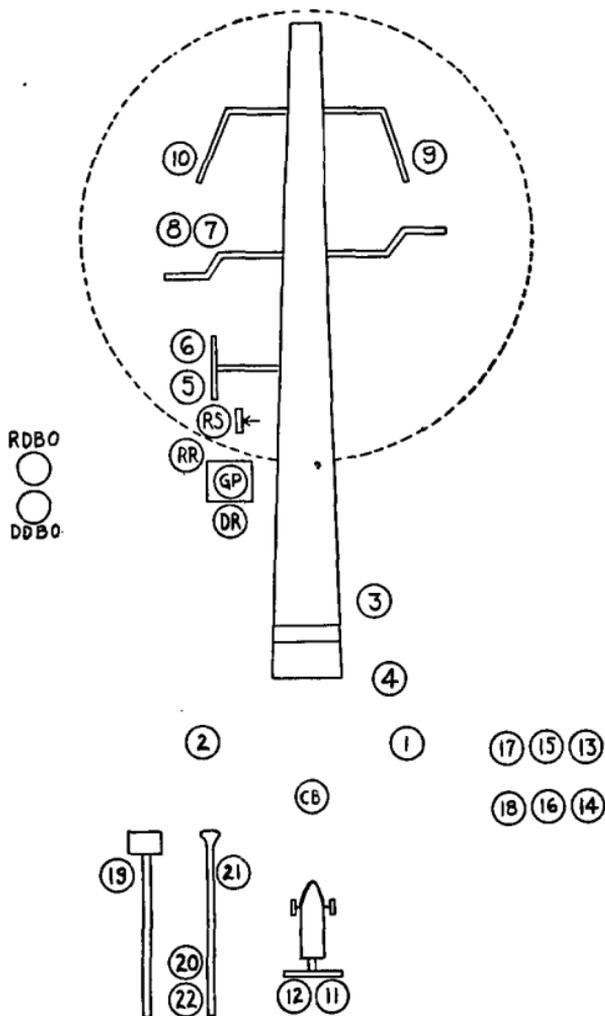

FIGURE 2.—DETAILS, POSTS.
*b.* When his section arrives at the emplacement he commands: 1. **DETAILS**, 2. **POSTS**, and supervises the procurement of equipment. After all details have reached their posts (fig. 2), he commands: **EXAMINE GUN**. He then makes an inspection of the gun, carriage, and other matériel.